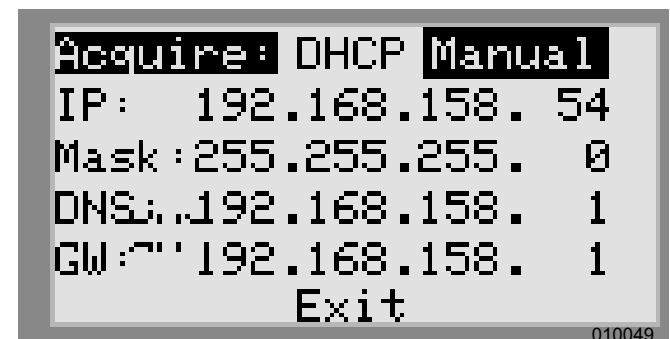

Figure 6-29. Ethernet Configuration (2 of 2)
- See Figure 6-29. From the IP Settings menu select Manual.